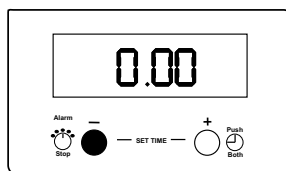

Fig. 5.
To set press button (1) and the display will read 0.00, see Fig. 5.